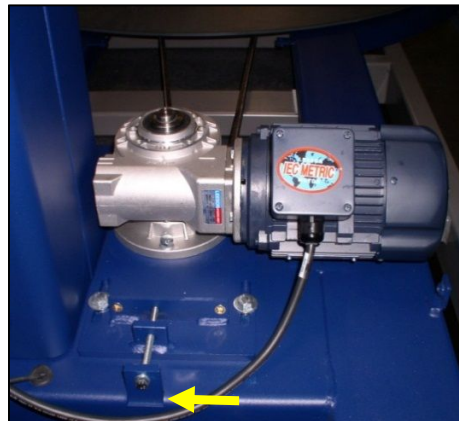

Figure 7.23
23. Install the tension adjustment bolt to the drive assembly (Figure 7.23).